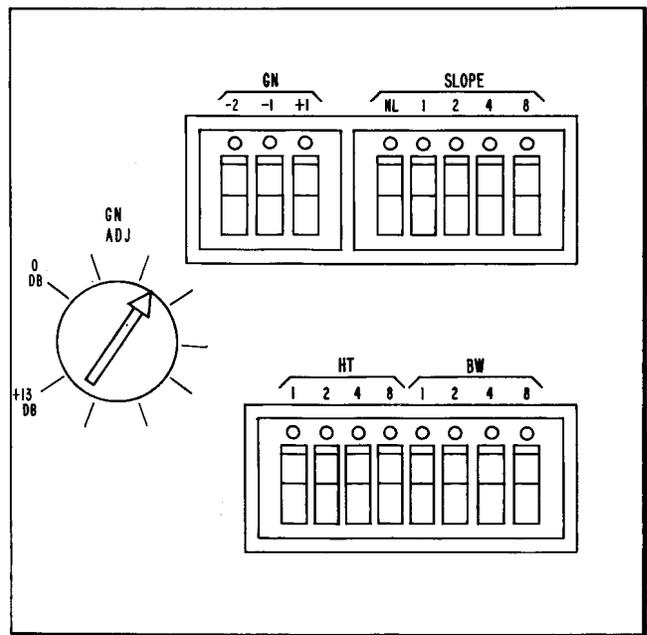

Fig. 6—309B Amplifier Unit Controls
2.05 The 309B equalizing amplifier unit has identical flat-gain characteristics and controls as described for the 309A amplifier. In addition, adjustable equalization is provided which is controlled by the following four adjustments shown in Fig. 6.
- (a) A switch labeled NL selects the equalization characteristics for loaded or nonloaded cable (the switch rocker is depressed toward the NL marking for nonloaded cable). Although this switch is marked NL on the 309B amplifier unit, its operation in the opposite direction sets the equalizer for use with loaded (L) facilities. It is therefore referred to as the NL/L switch in the following discussion.